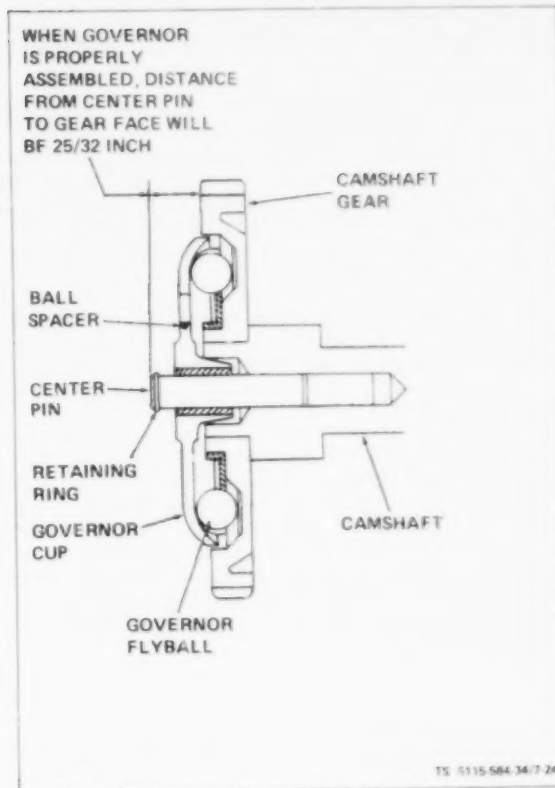

Figure 7-24. Governor Cup Assembly
a. Remove (see figure 7-24). Remove retaining ring from camshaft center pin and slide cup off. Be sure to catch the ten flyballs that will fall out when cup is removed.
b. Repair. Replace any flyballs that have flat spots or grooves. Replace cup if race surface is grooved or rough. The governor cup must be a free spinning fit on camshaft center pin, but should be replaced if excessively loose or wobbly. Check distance the center pin extends from the camshaft gear, this distance must be $25/32$ inch to give proper travel distance for the cup (see figure 7-24). If it is less, the engine may race; if more, the cup will not hold the balls properly. If distance is too great, drive or press center pin in. If it is too small, replace pin; it cannot be removed without damaging the surface. If aluminum ball spacer openings are badly worn, replace ball spacer. (Camshaft must be removed for this.)